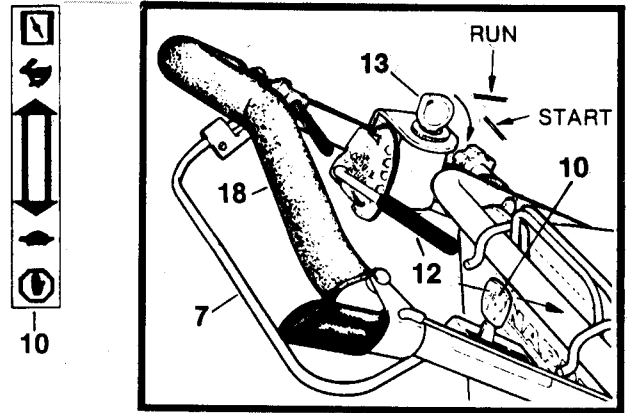

FIG. 4-ELECTRIC START
ELECTRIC START: The KEY/IGNITION switch (13) has two positions - RUN & START. The engine **CAN NOT** be stopped at the switch! Stopping the engine is accomplished by releasing the BLADE CONTROL. Refer to FIG. 4.
1. Move ENGINE CONTROL lever (10) to START (CHOKE) position.
2. Hold BLADE CONTROL (7) firmly against UPPER HANDLE (18) - otherwise the engine will NOT start.